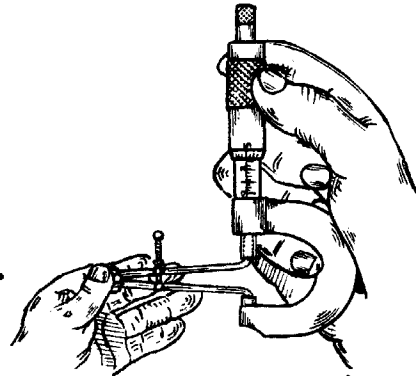

FIG.14 TRANSFERRING A MEASUREMENT
2. Lay the calipers in the left hand with the tips of the caliper legs extending beyond the fingers (Fig.14).
3. Hold the micrometer in the right hand so that the thimble may be adjusted with the thumb and forefinger (Fig.14).